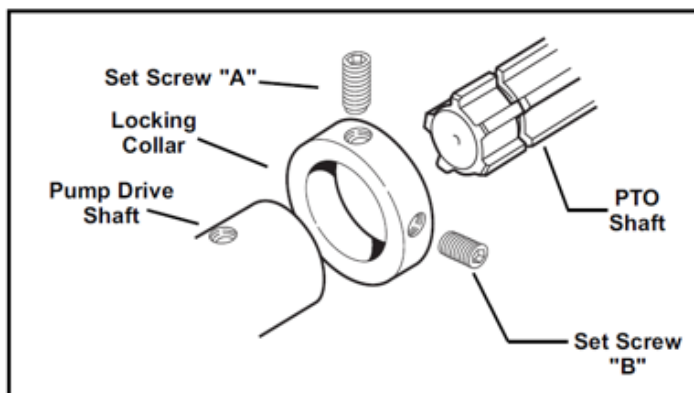

Figure 2
- For pumps using a locking collar to secure the pump drive shaft to the PTO slide the locking collar onto the pump driver shaft (see Figure 2)